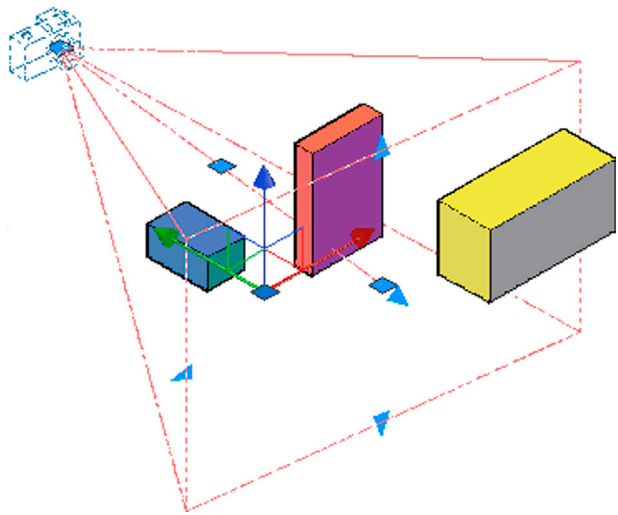

FIGURE 29.11 Camera field of view.
Step 3. Position the camera in a location that is some distance away from the objects and at a good angle to view the blocks. As soon as you click to position the camera, you see the “target view cone” shown in Fig. 29.11. This is the camera’s field of view.